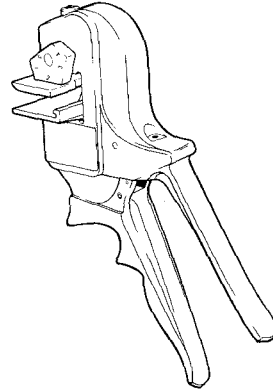

Fig. 6—4255 Hand Presser
- a. The 4255 Hand Presser is a five position tool. Two positions are for use with Super Mate Module and three positions are for the Super Mini Modules. See Figure 6.